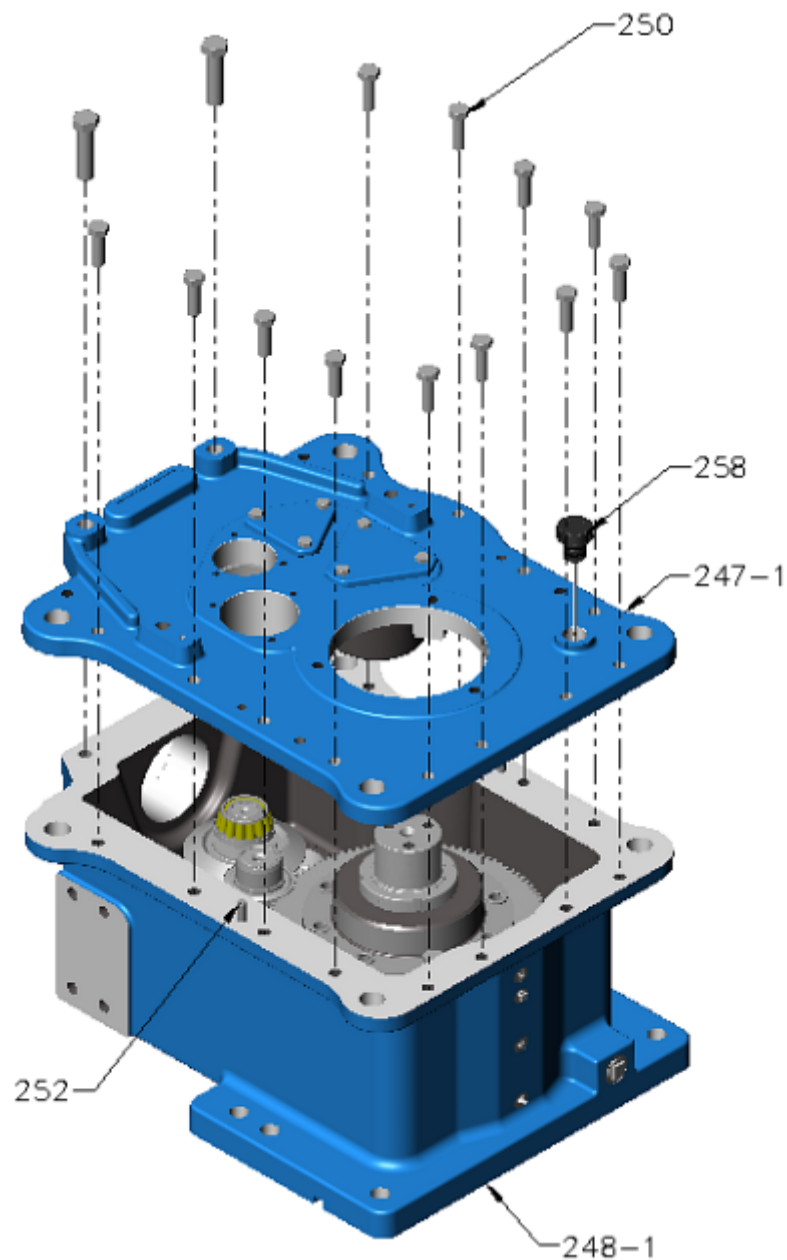

Figure 8 – Case Lid
- J. Remove case lid **[247-1]** (Refer Figure 8).